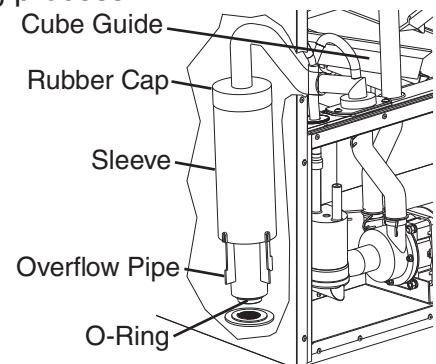

Fig. 20
- 7) Slide the cube guide to the right, then remove the rubber cap and sleeve covering the overflow pipe. See Fig. 20. Unscrew the overflow pipe. After the water tank has drained, reconnect the overflow pipe. Replace the rubber cap, sleeve, and cube guide in their correct positions. **NOTICE! Make sure the O-ring is attached to the bottom of the overflow pipe and be careful not to cross thread the overflow pipe.**